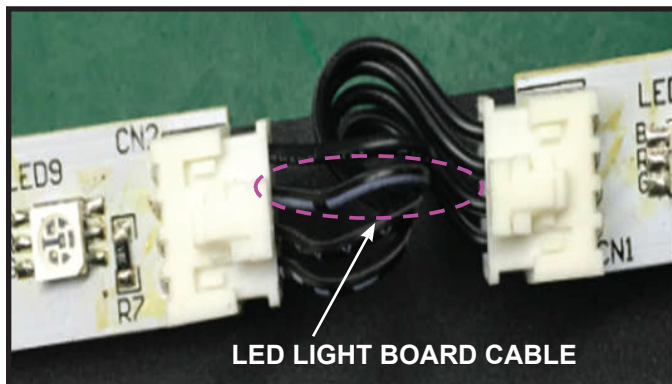

Figure 9 Unplug LED Light Board Cable
3. Unplug the LED Light Board cable. See Figure 9.
5. Remove and discard LED light board, replace with new LED light board. Install new LED light board by engaging the holes in the light board with the plastic barbs, and pressing into position. Reconnect the cables. See Figure 9.